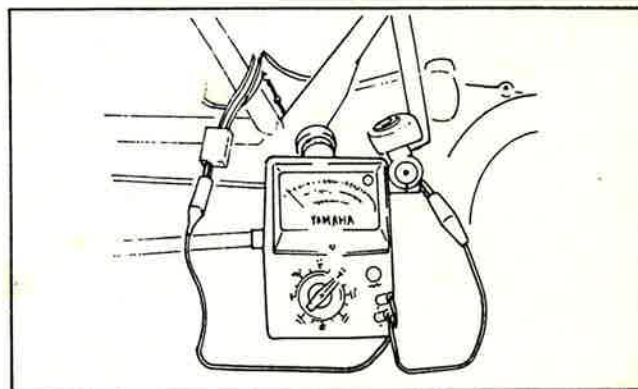

Fig. 6-7-2
- Connect positive (+) test lead to yellow green and green-red wire from magneto and negative (-) test lead to a good ground on engine. Read the resistance on ohms scale. (Fig. 6-7-2)